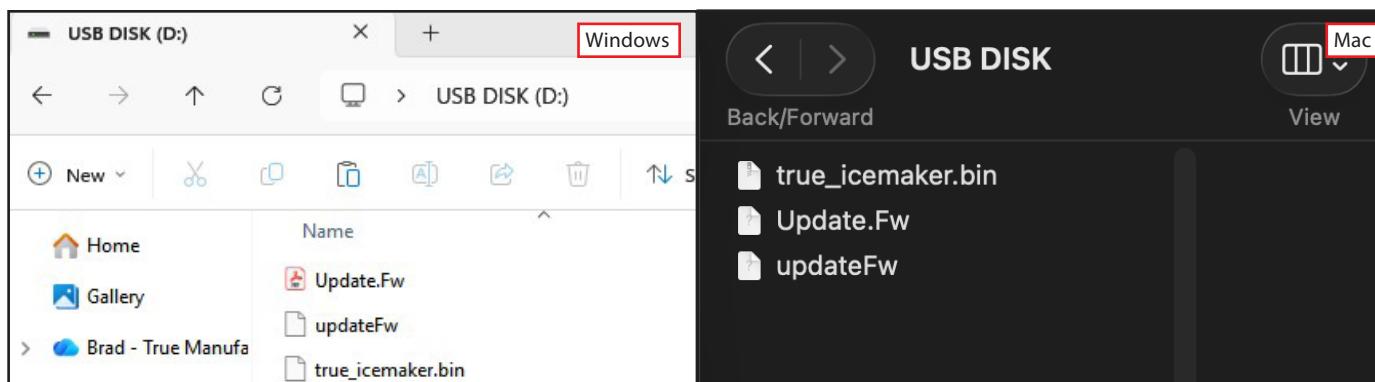

Fig. 10. Copy the firmware files to your USB folder.
10. Copy the firmware files to your USB folder. See fig. 10.